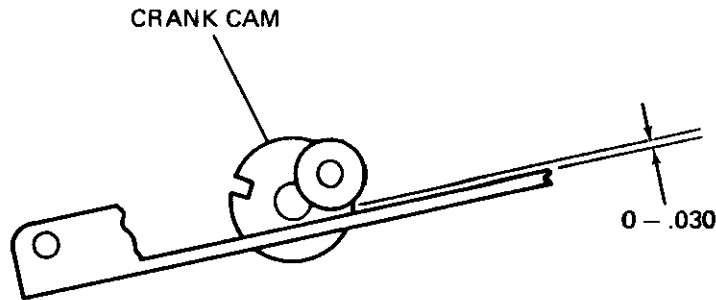

Figure 2-11A. Eject Motor Cam Alignment Check - Carrier Open
- d. Depress eject button on bezel and observe the crank cam rotate to a point where the bearing follower is just clear of impacting the carrier plane, i.e., 0-.030". Once the carrier is open there must be no further contact between the bearing follower and carrier. (Figure 2-11A.)